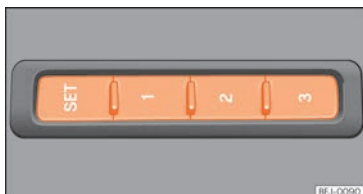

Fig. 115 On the outer side of the driver's seat: memory buttons.
»» **Fig. 115.**
- Press and hold the **SET** button »» Fig. 115.